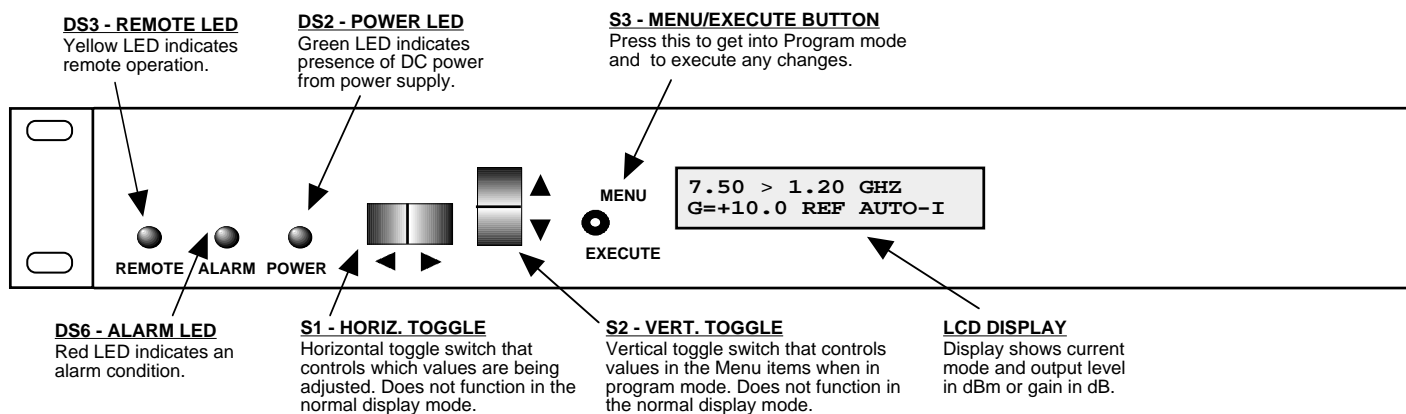

FIGURE 2.2 3116-72 Front Panel Controls and Indicators
Figure 2.2 shows the front panel controls and indicators.
5. Be sure DS2 (green, DC Power) is on and DS6 (red, Alarm) is off (Figure 2.2).
Alarm indications appear on the LEDs (see Figure 2.2).